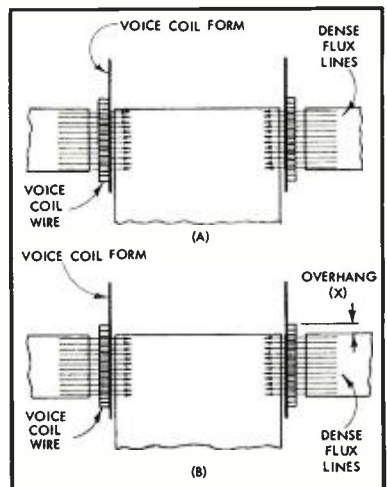

Fig. 6. Voice-coil geometry. (A) Voice coil no longer than dense flux field. (B) Voice coil overhanging the dense flux field.
The throw of the voice coil is defined as the maximum excursion it can execute without distortion due to non-linearity of movement. At any particular frequency the excursion will be proportional to the voice-coil current as long as the same number of turns of the voice coil always remain in the dense flux field. In Fig. 6, (A) shows the voice-coil flux configuration for maximum efficiency. However, this arrangement will not be able to move without causing distortion because any excursion will remove turns from the gap; (B) shows a voice-coil arrangement where a constant number of turns will be maintained in the flux field with excursion. Twice the amount of overhang, X, will be the total excursion available without non-linearity. Overhang results in a loss of efficiency, and the greater the overhang the greater the loss of efficiency. Turns of the voice